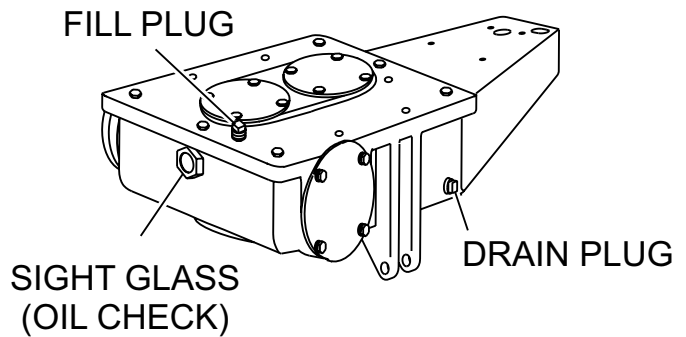

Figure 8. Gearbox Oil Plugs
1. Check the gearbox oil level in both gearboxes by viewing the sight glass at the rear of the gearbox. See Figure 8.